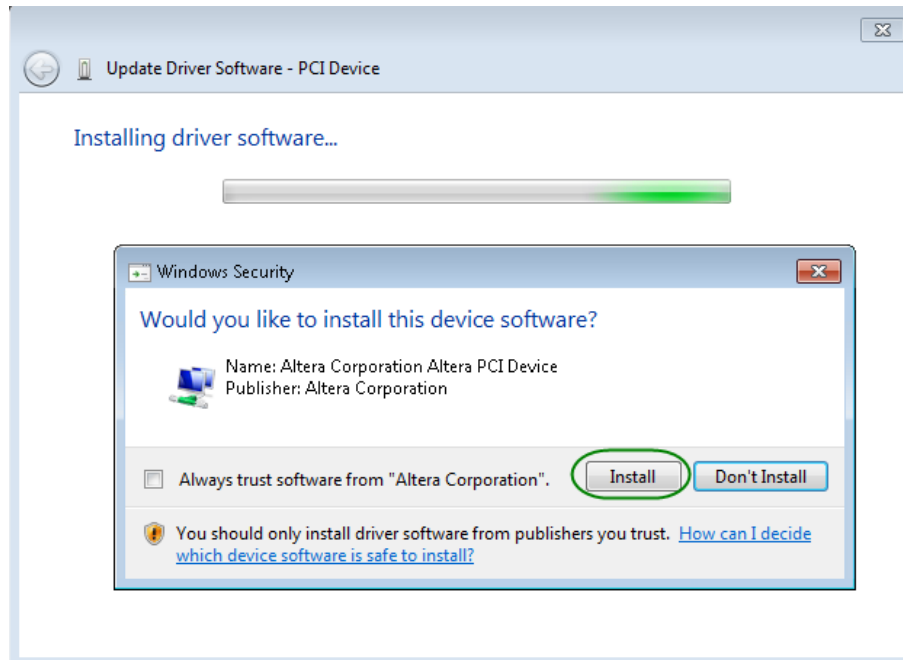

Figure 7-6 Click Install in the dialog of Windows Security
8. When the **Windows Security** dialog appears, as shown **Figure 7-6**, click the